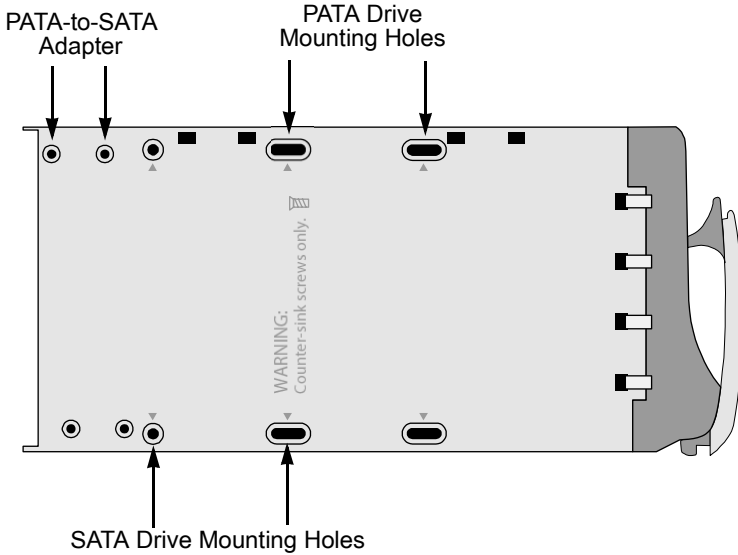

Figure 4. Drive Carrier mounting holes
2. Insert the screws through the holes in the Drive Carrier and into the bottom of the disk drive (see Figure 4).
5. Carefully lay the drive into the carrier so that the screw holes on the bottom line up (see Figure 4).